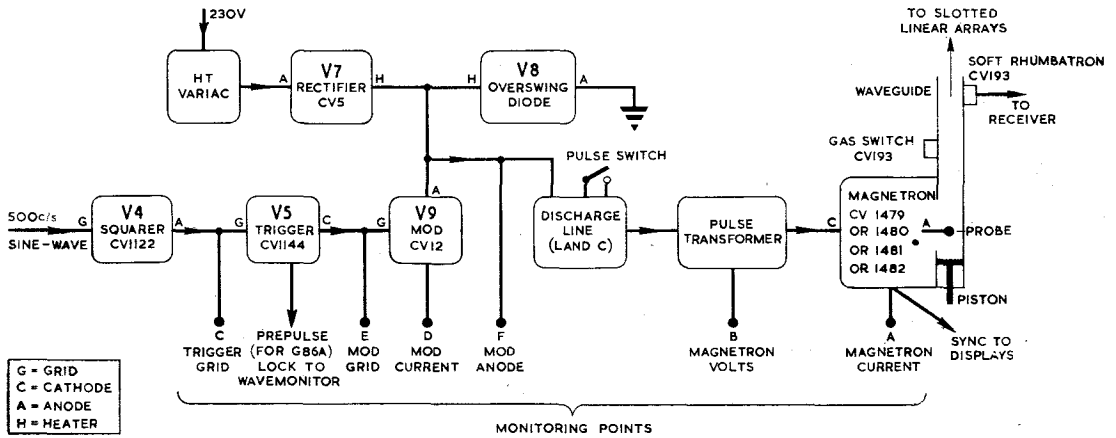
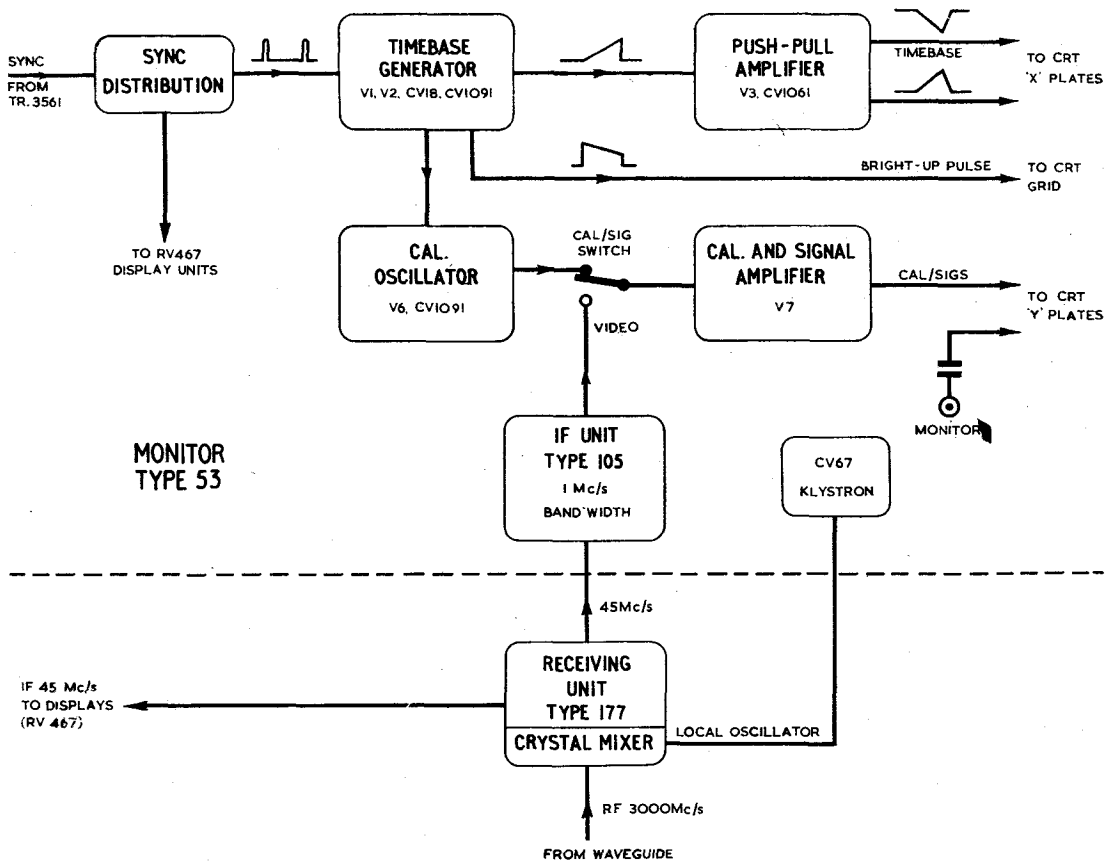

Fig. 30. TR.3561 : block diagram
Fig. 31. Monitor Type 53 and receiving unit Type 177 : block diagram
82. The block diagram of the modulator and transmitter (fig. 30) and of the monitoring unit and head amplifier (fig. 31) have been included for general guidance. For detailed circuitry refer to A.P.2525L.
Monitor Type 53 (fig. 31)